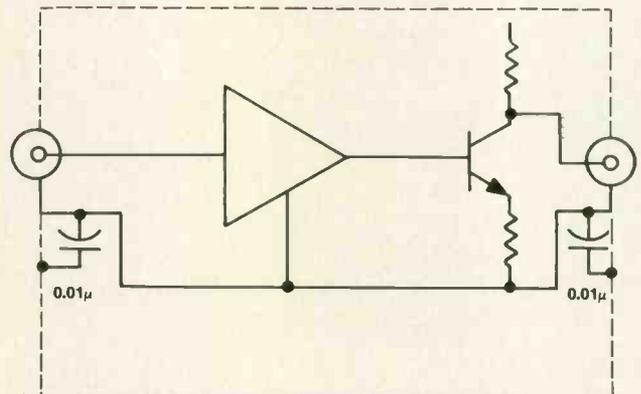

Figure 1. Capacitors bypass shield to chassis, keeping RFI out of amplifier ground.
HFI is insidious. The mere fact that input cables are properly shielded and grounded does not preclude the possibility that they will act as antennas at some frequency. For example, see Figure 1, which shows a hypothetical amplifier stage. Even though the shield is *grounded*, it still can couple noise into the cabinet from outside. This happens because an audio ground is not necessarily an RF ground. The wire connecting the input jack shield to circuit ground may be a dead short at 20kHz, but an inductor at RF. In that instance, noise will be coupled into the ground system of the amp.
In the physical world, we can simulate this with a row of light bulbs. Let's say you're trying to communicate a number to someone with the row of light bulbs shown in Figure 1. To convey the number 1 is simple: just light up the rightmost bulb.
**Figure 1.** Two-state devices such as those used in computers can be simulated in the physical world by using light bulbs (they can be *on* or *off*). The number 1 can be represented by lighting the rightmost lamp.